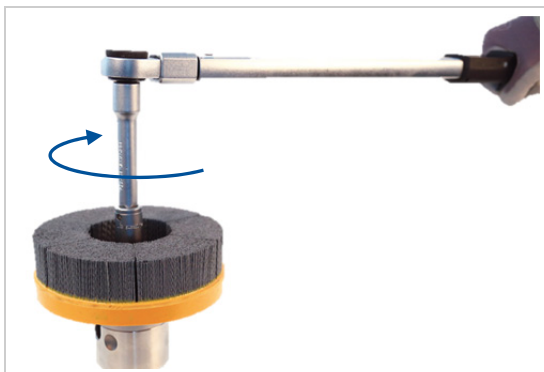

Figure 5: Tighten clamping screw using torque wrench
5. Tighten the clamping screw to the required tightening torque using the torque wrench (see “Figure 5: Tighten clamping screw using torque wrench”).